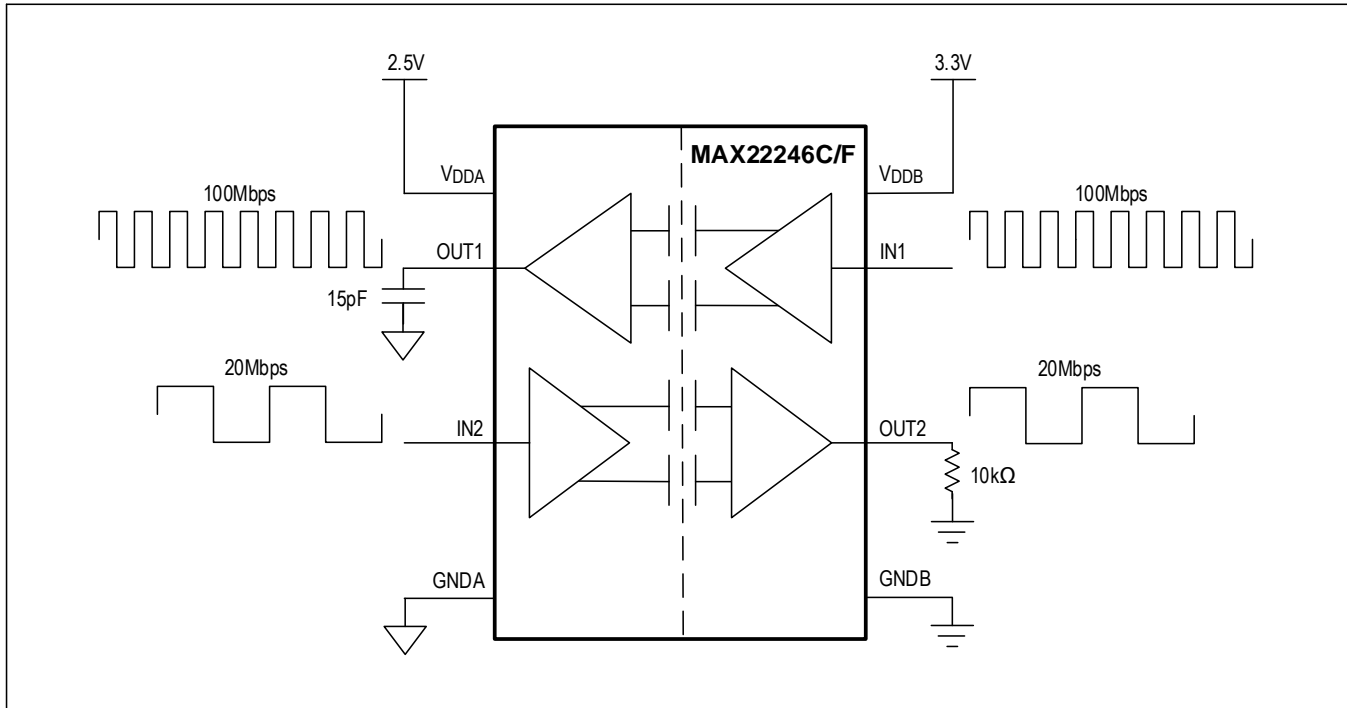

Figure 10. Example Circuit for Supply Current Calculation
**Example** (shown in Figure 10): A MAX22246C/F is operating with  $V_{DDA} = 2.5V$ ,  $V_{ddb} = 3.3V$ , channel 1 operating at 100Mbps with a 15pF capacitive load, and channel 2 operating at 20Mbps and 50% duty cycle with a 10k $\Omega$  resistive load. See Table 4 and Table 5 for  $V_{DDA}$  and  $V_{ddb}$  supply-current calculation worksheets.